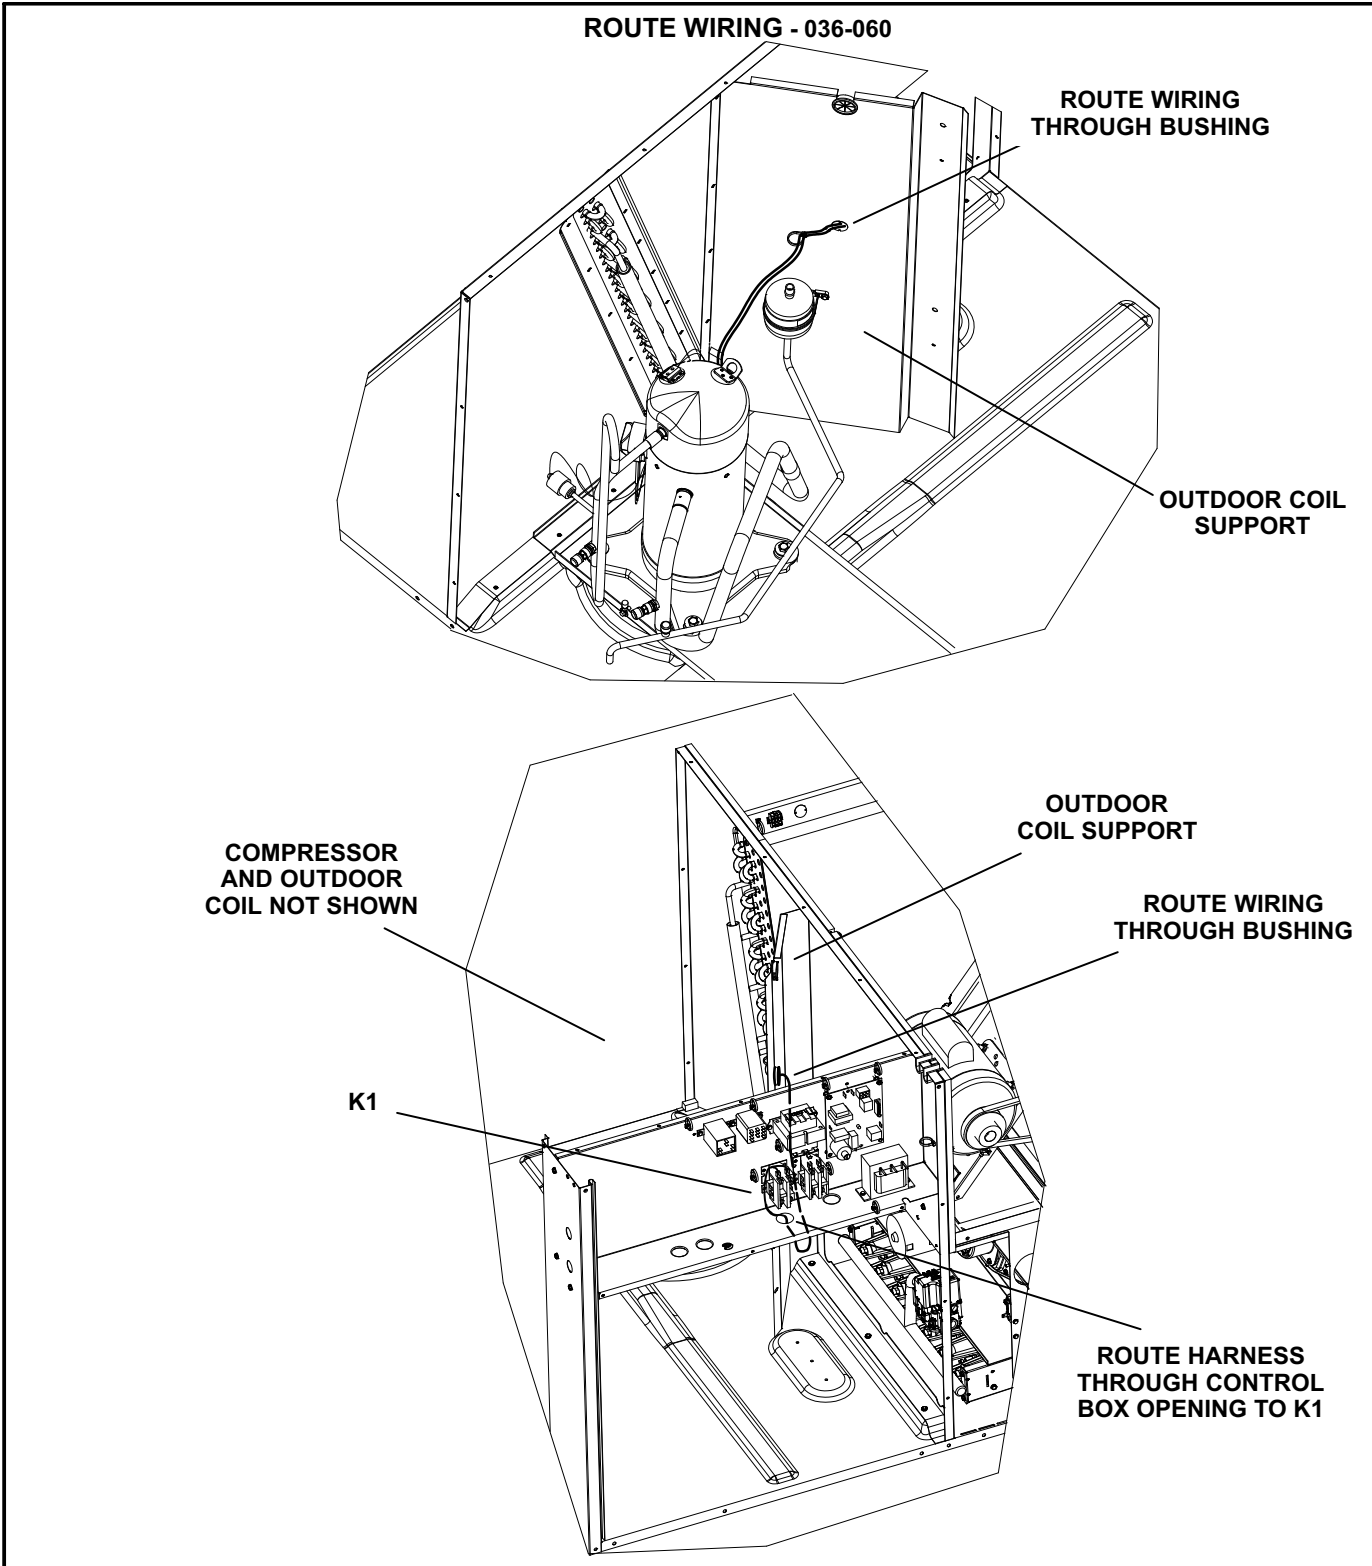

FIGURE 2
- 5- Install snap bushing in outdoor coil support. See figure 2. Route harness as shown in figure 2.